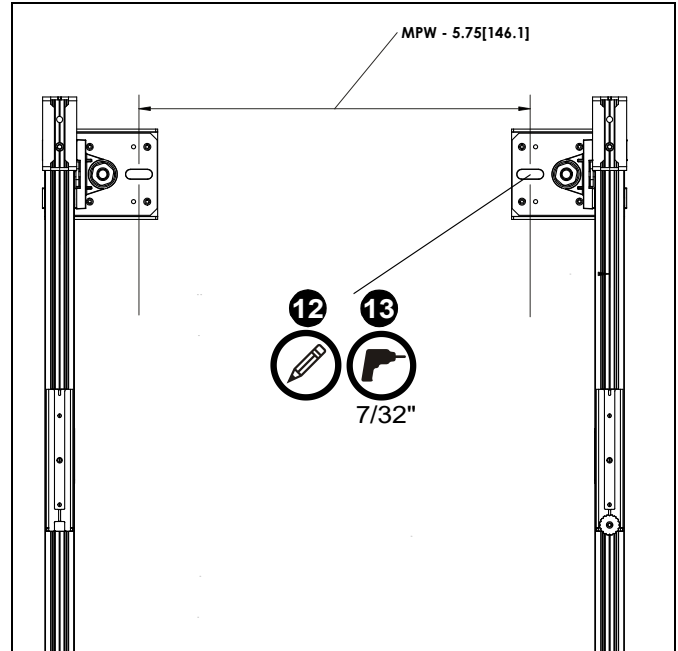

Figure 5
12. Determine and mark the adjacent mounting location along the upper level line using the following formula (See Figure 5):
13. Drill 7/32" mounting hole at marked location. (See Figure 5)